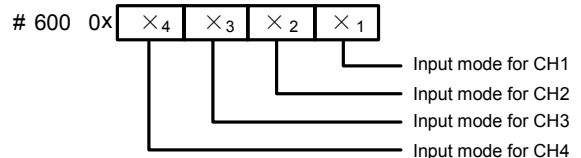

Figure 2-1 Mode setting element vs. channel
- BFM#600: input mode selection, used to set the input modes of CH1 ~ CH4. See Figure 2-1 for their correspondence.